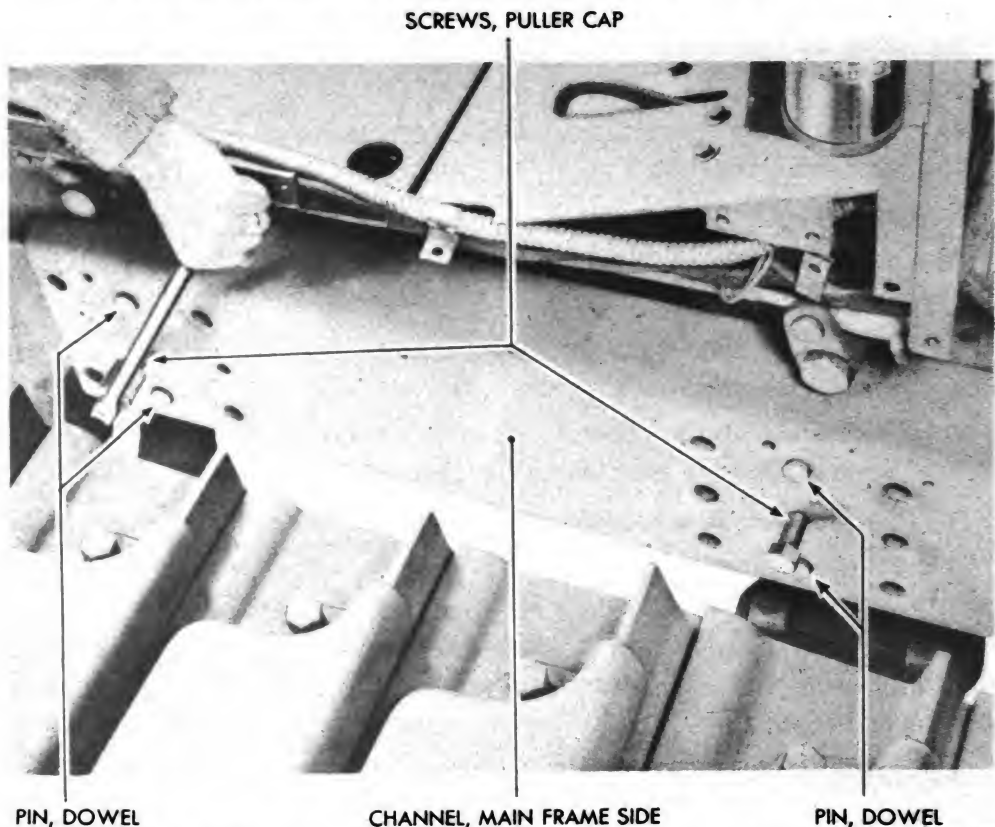

Figure 179 — Main Frame Side Channel Removal RA PD 43498
(4) REMOVE ENGINE SIDE SHEET (RIGHT) AND AIR RESERVOIR. Follow procedure outlined in TM 9-1777B.
(5) REMOVE MAIN FRAME SIDE CHANNEL (RIGHT) (fig. 179).